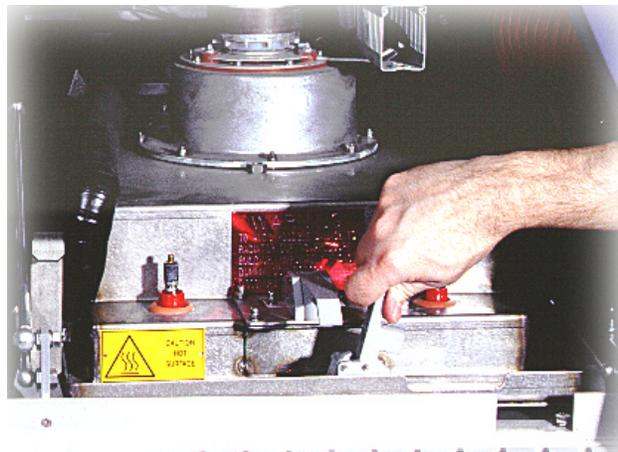

Figure 165: Releasing Center Latch
7. Release the latch that secures the hood of the cooling chamber to the machine. It is the lower of the two visible latches located on the front of the cooling module. It lifts from right to left. Refer to Figure 165.